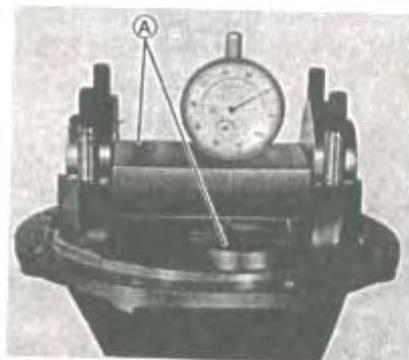

FIG 13-24:A-Drive, driven gear simulation part
(3) Install adjusting washer onto axle neck of drive gear end. The quantity and thickness are different for every vehicle. To ensure proper installation of drive gear and proper meshing clearance between drive and driven gear, make sure to choose proper spacer thickness. Space thickness can be confirmed according to following method. Process a set of drive, driven gear simulation parts for standby. the following explains how to use simulation parts. Make sure to install simulation parts into reduction final case without installing adjusting washer. (FIG.13-24)